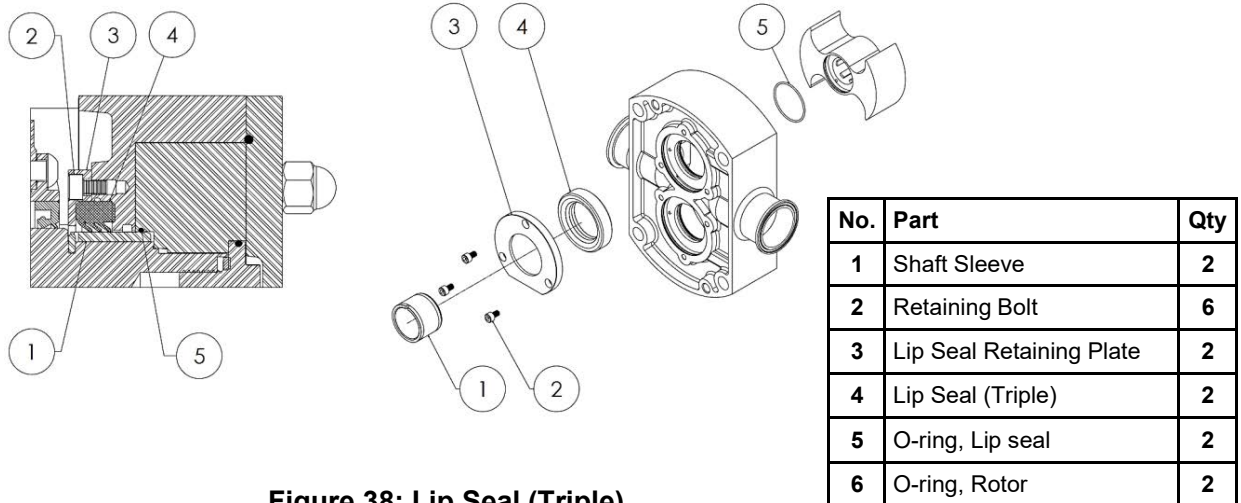

Figure 38: Lip Seal (Triple)
**Disassembly:** The lip seal option is shown in Figure 38. Remove the retaining bolts using the appropriate driver and slide the lip seal out of the body. Check the lip seal for damage around the lips, if any of the lips are damaged discard the lip seal and replace it. Remove the o-rings from the lip seal and rotor (Figure 38, items 5, 6). If damaged, replace o-rings. Slide the shaft sleeves off the shafts and inspect for damage. Do not re-use sleeves that are damaged (sleeve surface grooved or scratched).